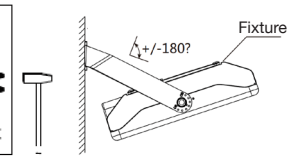

Fig. 23
3. Connect fixture to bracket and tighten screws. Connect power supply wires in junction box. **Note:** Adjustable angle is 0-90° (Fig. 23).